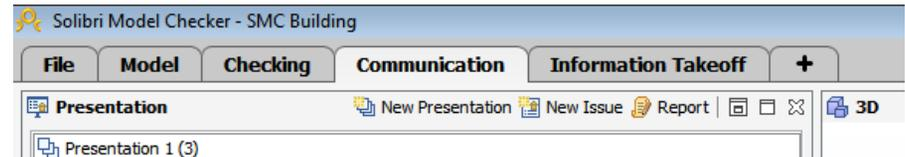

Figure 72 Presentation toolbar
- You may also add issues separately by setting a view you want to store in the 3D View and then click "New Issue" on the **Presentation Toolbar**, or you can start a new Presentation. (see Figure 72).